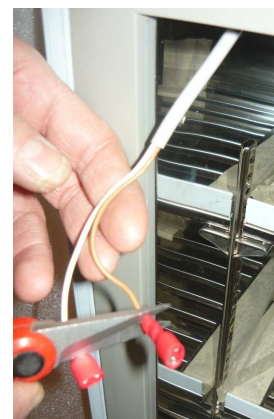

Fig. 2
- 2 – **Rimuovere i fast-on dai cavi (Fig. 2)**
Remove the fast-on fixed on the cable (Fig. 2)